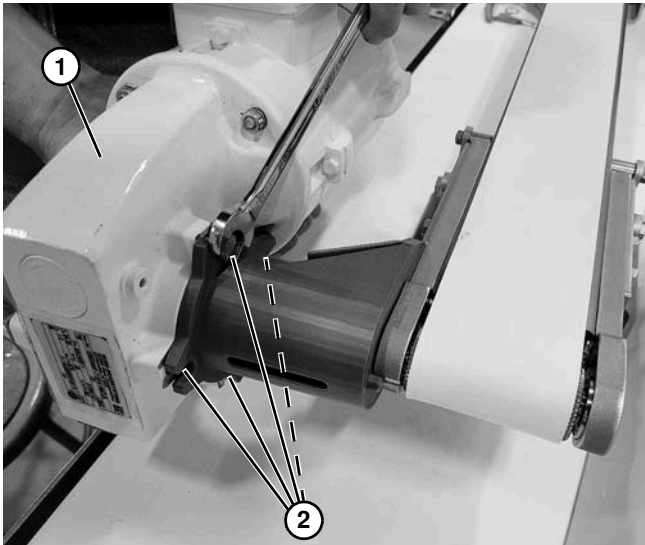

Figure 15
- Secure gearmotor (Figure 15, item 1) with four screws (Figure 15, item 2).